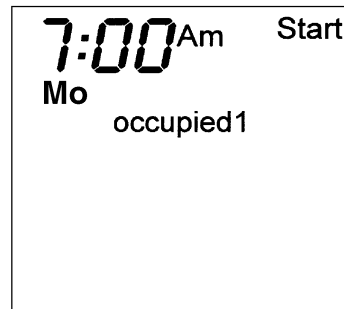

Fig. 9 — Start Time Display
7. The Start Time for Occupied 1 will be displayed. Use the UP ARROW and DOWN ARROW buttons to raise or lower the time until the desired Start Time is shown. Press the Mode button to continue. See Fig. 9.